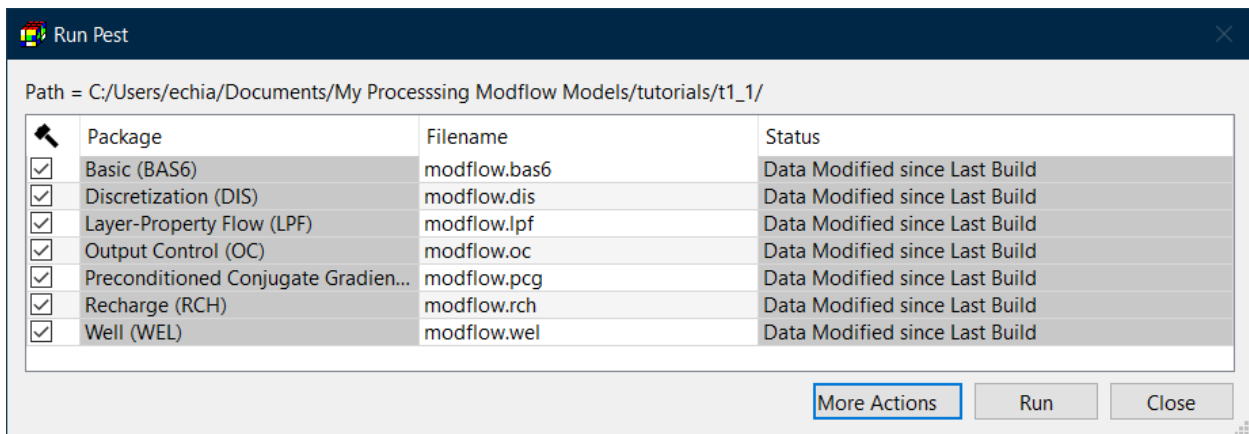

Figure 24. The Run PEST dialog box
1. Select Models > PEST > Run to display the Run PEST dialog box appears (Figure 24). PM will configure the settings for the build boxes in the  column automatically.